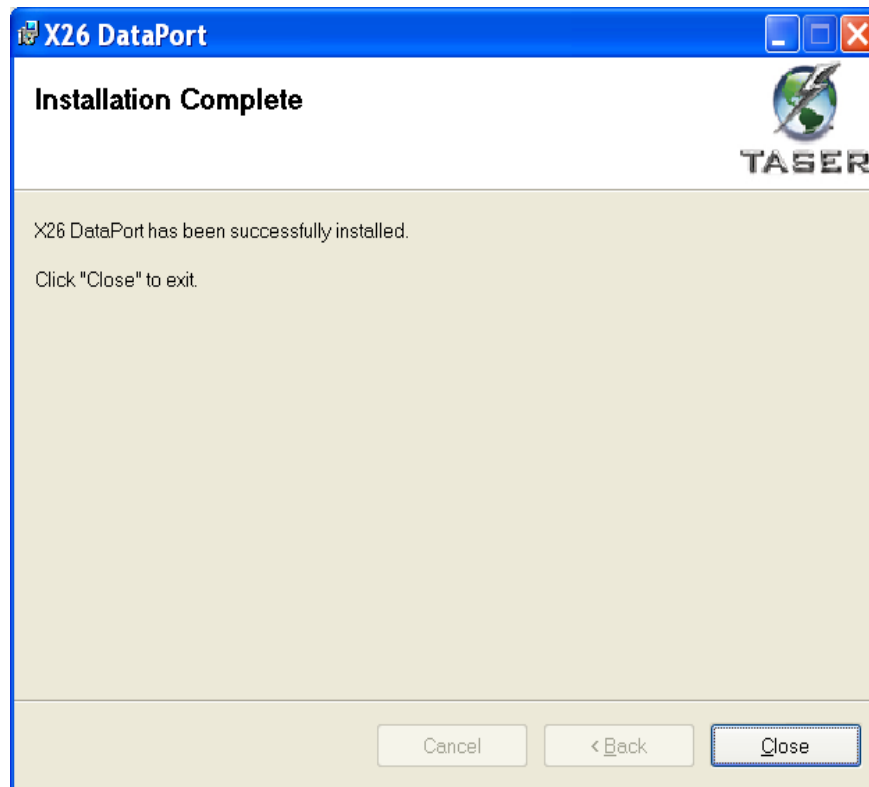

Figure 6
10. Click **Close** (Figure 6).